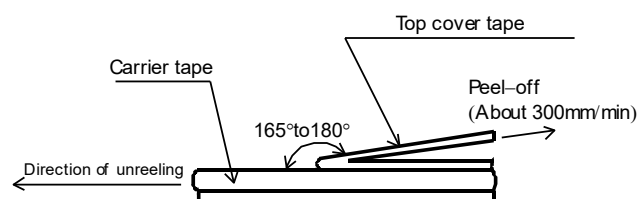
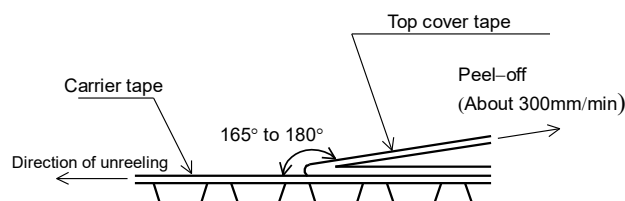

Figure-6
Figure-7
- 5). The peel strength of the top cover tape shall be with in 0.1N to 0.5N on the test method as shown in the following RLC10, 16, 20, 32: Figure-6, RLC35, 50, 63: Figure-7.